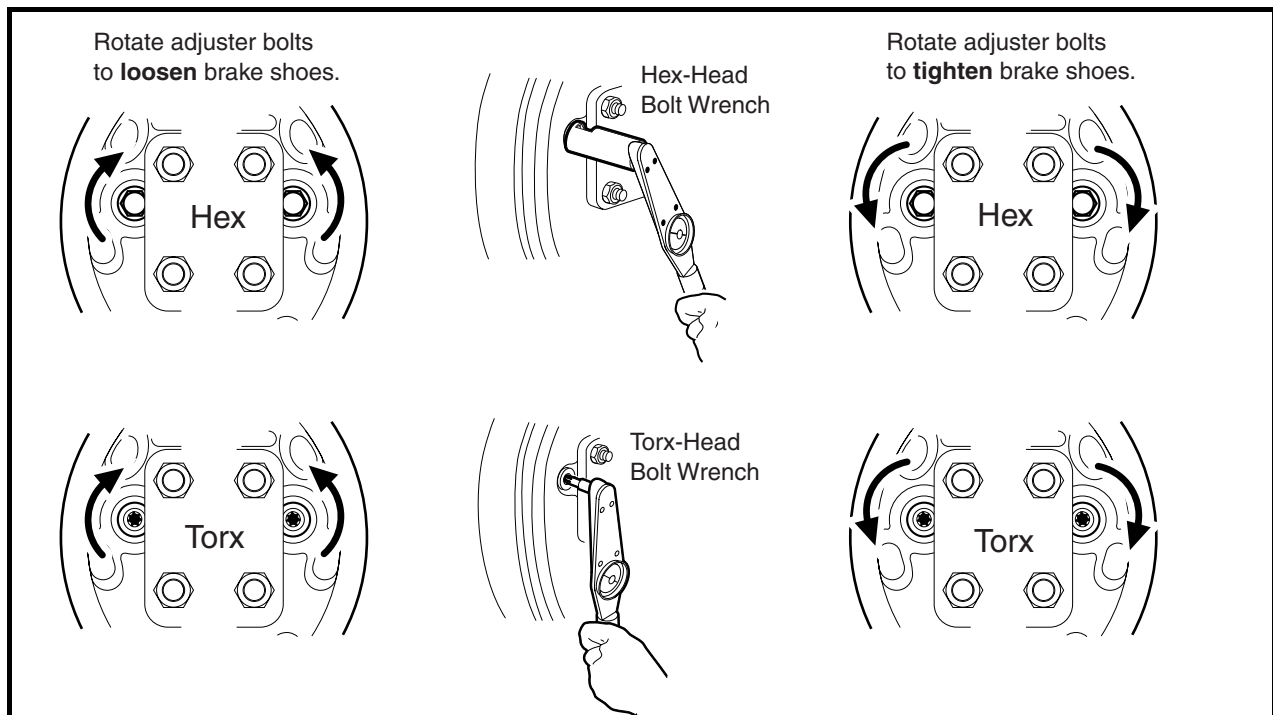

Figure 6-3 Loosen or Tighten Brake Adjusters
5.2. Use a torque wrench and a Torx #T-27 driver, or hydraulic brake adjuster (CC 102169401), and gently rotate the adjuster bolts to increase the clearance between the brake shoe lining and the brake drum (**Figure 6-3, Page 6-7**). See following **NOTE**.
- 5.2. Use a torque wrench and a Torx #T-27 driver, or hydraulic brake adjuster (CC 102169401), and gently rotate the adjuster bolts to increase the clearance between the brake shoe lining and the brake drum (**Figure 6-3, Page 6-7**). **See following NOTE.**